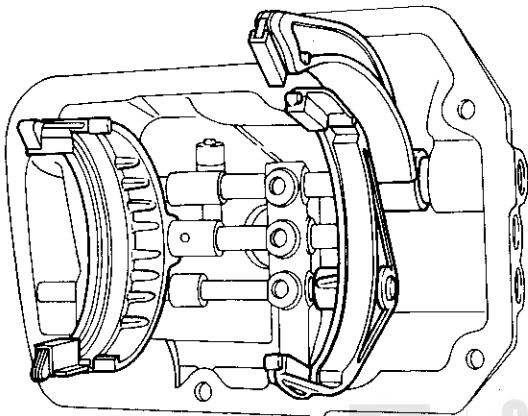

Fig. 2B-46 Shift Fork/Shift Gate Position
(1) Install replacement breather in housing if removed.
(2) Install spring and plunger in reverse shift gate. Compress plunger and install plunger retaining clip.
(3) Insert reverse shift rail into housing. Install reverse shift fork on rail and slide rail up to but not into shift rail poppet bore.
(4) Install poppet spring and ball in reverse shift rail poppet bore. Compress ball and spring using punch and slide rail through bore.
(5) Install reverse shift gate on opposite end of shift rail and slide rail into housing until poppet ball engages in rail notch. Install shift gate so plunger pin boss faces rear of housing (fig. 2B-46).
(6) Align and install roll pins that fasten reverse shift fork and shift gate to shift rail.
(7) Install interlock plungers in pockets located between housing shift rail poppet bores.
(8) Insert first-second shift rail into housing. Install first-second shift fork on rail so fork offset faces rear of housing (fig. 2B-46). Slide shift rail up to but not into shift rail poppet bore.
(9) Install poppet spring and ball in first-second shift rail poppet bore. Compress ball and spring using punch and slide shift rail through bore.
(10) Install first-second shift gate on opposite end of shift rail and slide rail into housing until poppet ball engages in rail notch.
(11) Align and install roll pins that fasten first-second shift fork and shift gate to shift rail.
(12) Insert third-fourth shift rail through center bore in housing. Install third-fourth shift gate on rail so flat tang on gate faces front of housing (fig. 2B-46).
(13) Coat interlock pin with petroleum jelly (to hold it in place) and install pin in third-fourth shift rail pin bore.
(14) Install poppet spring and ball in third-fourth shift rail poppet bore. Compress ball and spring using punch and slide rail through bore.
(15) Install third-fourth shift fork on shift rail and slide rail into housing until poppet ball engages in rail notch.
(16) Align and install roll pins that fasten third-fourth shift fork and shift gate to shift rail.